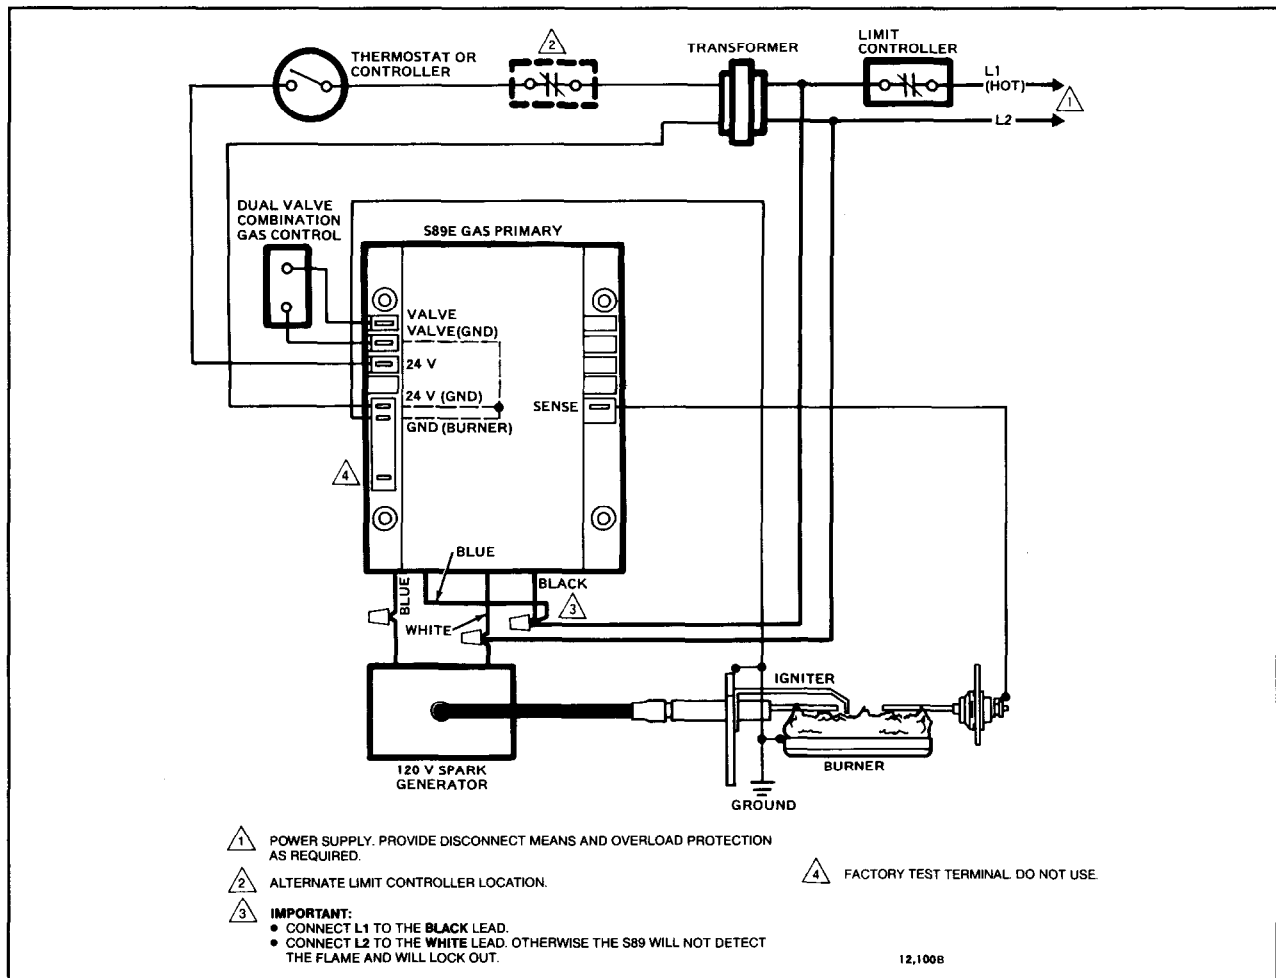

FIG. 2—S89E TYPICAL HOOKUP IN DIRECT SPARK CONTROL SYSTEM. SEE FIG. 8 FOR CONTROL SYSTEM LADDER DIAGRAM.
3. Wire system components and S89 as shown in Figs. 2 and 3. Refer to appliance manufacturer's instructions for connections to other auxiliary controls.